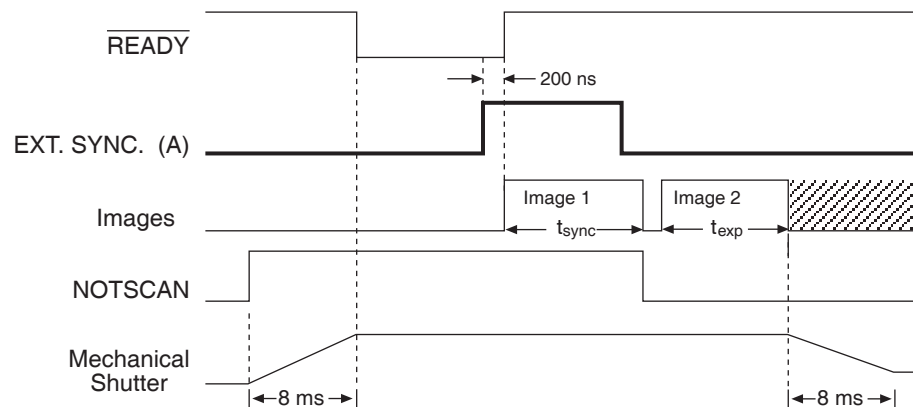

Figure 58. EEC Timing Example with Exposure Time in Software set to  $t_{ex}$
**Example:** The exposure time for the first image is controlled with the signal applied to the **EXT. SYNC** connector. The exposure time for the second image is the exposure time set in software under Experiment Setup. An external trigger supplied by the user is required to initiate the imaging process and control the first image exposure time. The controller **READY** signal goes low when the camera is ready to begin imaging. Figure 58 illustrates an EEC timing example.